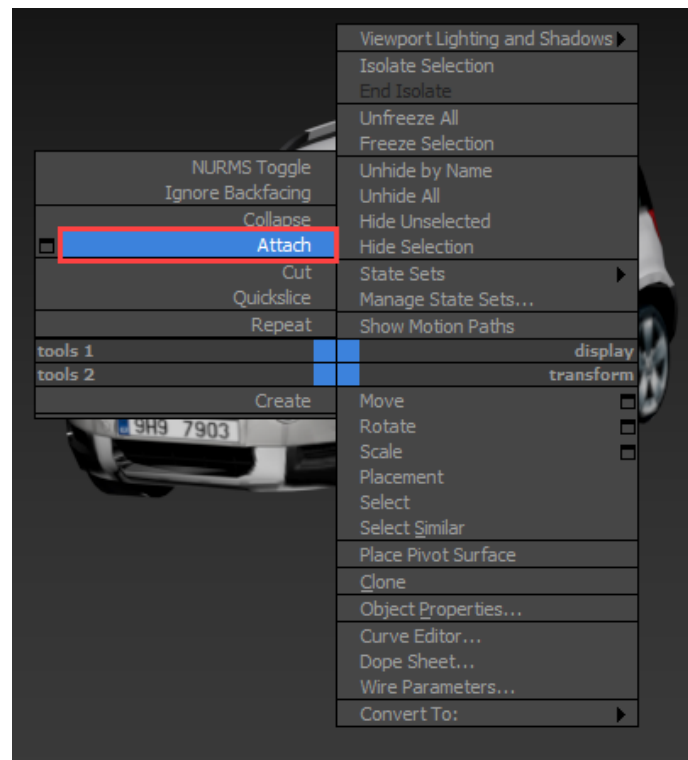

Figure 1.9. **Attach** menu item
3. After that click right mouse button again and select **Attach** in the context menu, see Figure 1.9.